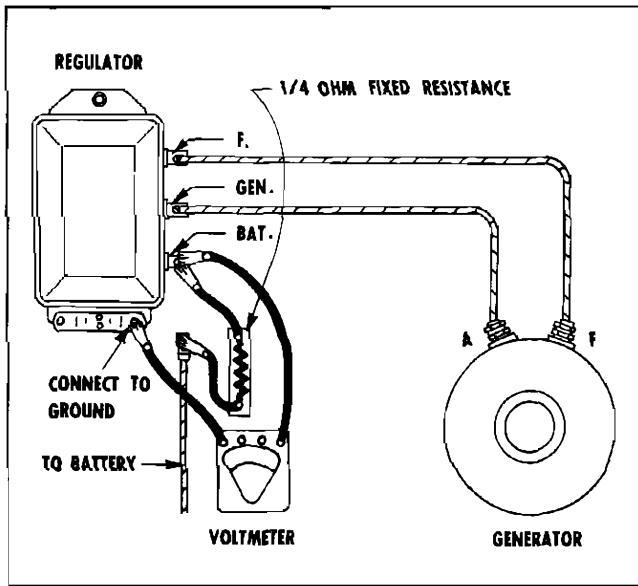

Fig. 11-25 Connections for Testing Voltage Regulator
1. Connect a $\frac{1}{4}$ ohm fixed resistor (approximately 25 watts capacity) into the charging circuit at the "BAT" terminal of the regulator and connect a voltmeter from the "BAT" terminal to ground (Fig. 11-25).